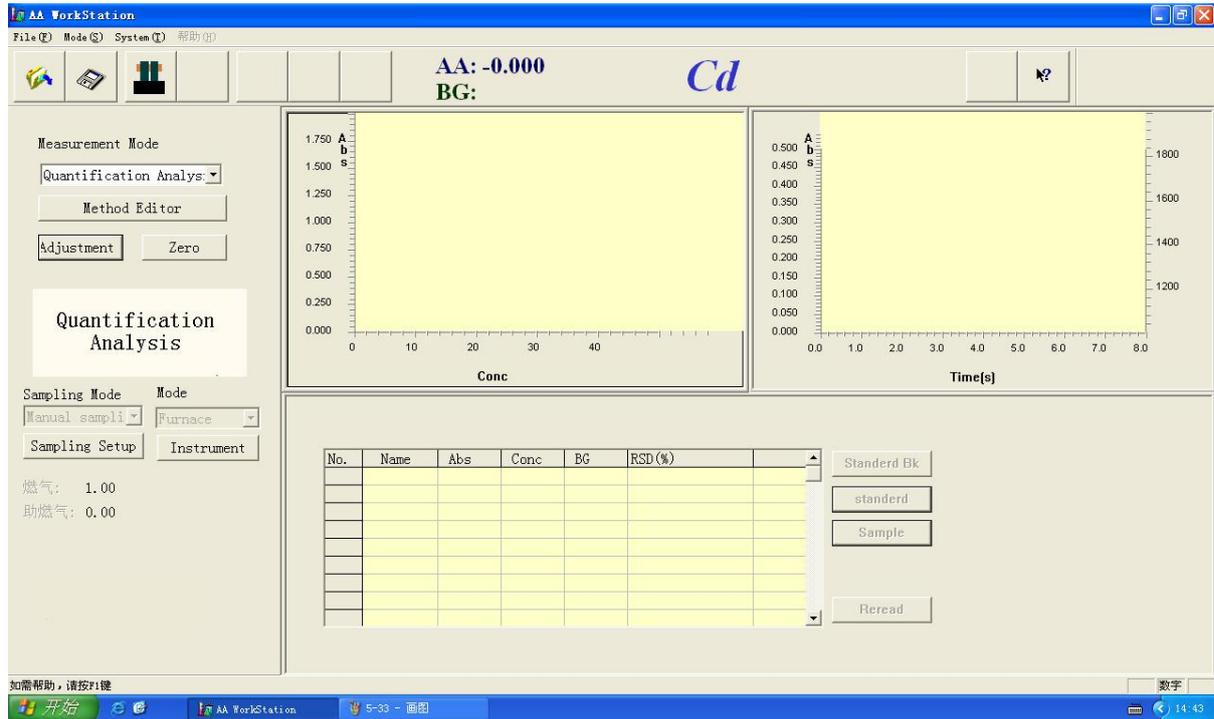

Figure 5-52
3. Figure 5-52, select the "quantification analysis" from the "Measurement Mode"